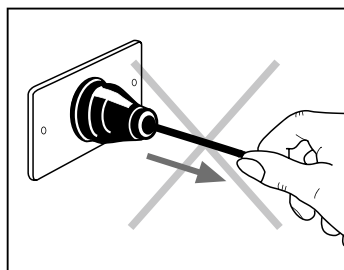

Fig. 2
- Do not tug at the lead or at the appliance to pull the plug out from the socket **(Fig. 2)**